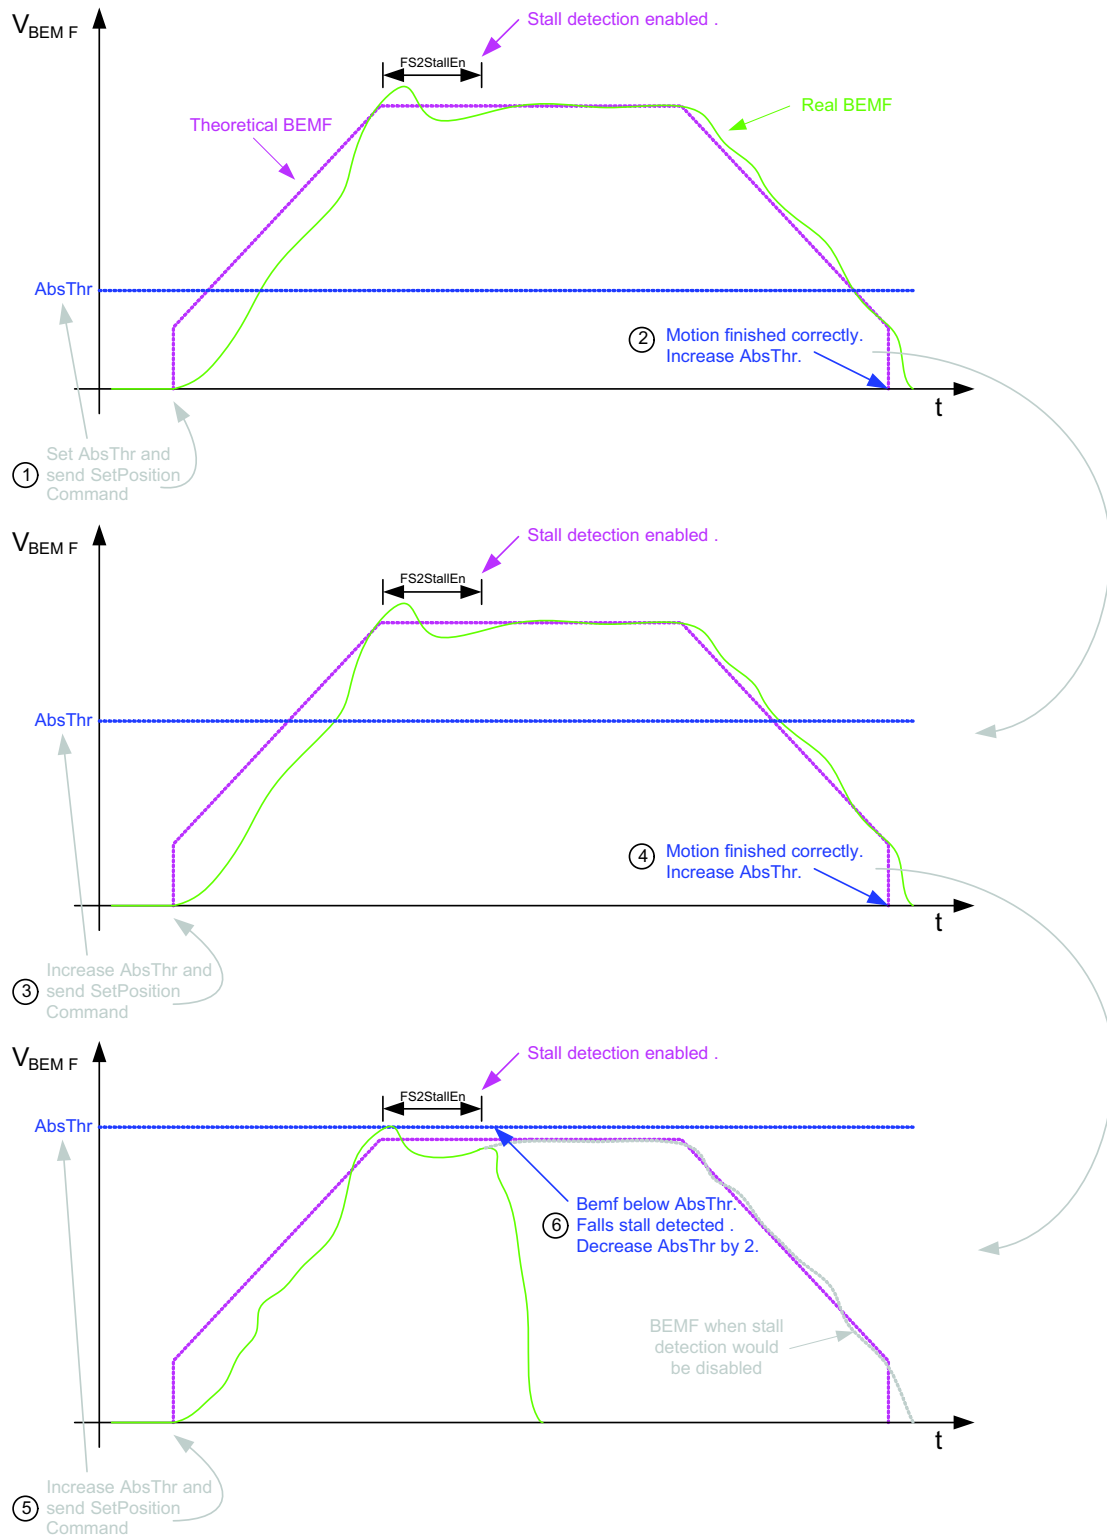

Figure 37. Define  $AbsThr$  for a Non-Free Running Motor (End Positions)
Step 4b: Set the AbsThr to the lowest value (0.5 V) and do a SetPosition. If the motion was completed correctly, increase AbsThr by one and repeat the SetPosition. Do this until a stall was detected without hitting an end position (= falls stall). If falls stall is detected, the AbsThr value is set too high. Decrease the (hexadecimal) value by 2 (if possible) to have a good AbsThr setting. Figure 37 gives a better view on this.